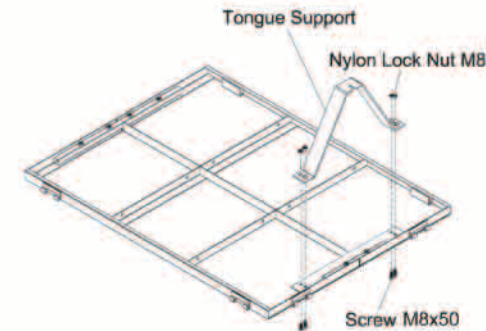

Fig. 2
STEP 2: Attach Tongue Support (See Fig. 2)